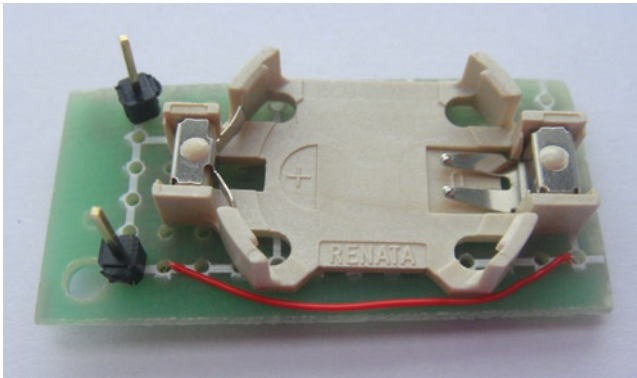

Figure 8-9. Top side of the battery holder
7. The battery holder I bought has the negative terminal at one end of the holder and the positive terminal at the other end. I don't like to have a header at each end of the board; it's just a personal preference for pin placement. However, you can have one if you like: it won't change a thing about this project. I have soldered the two headers at one end of the PCB. To do this, place the legs into the board and flip the board over: this will put pressure on the legs because they are the highest part of the board. You can see in Figure 8-9 where I have run a small trace wire from the negative terminal up to the same side that the positive terminal is connected to.